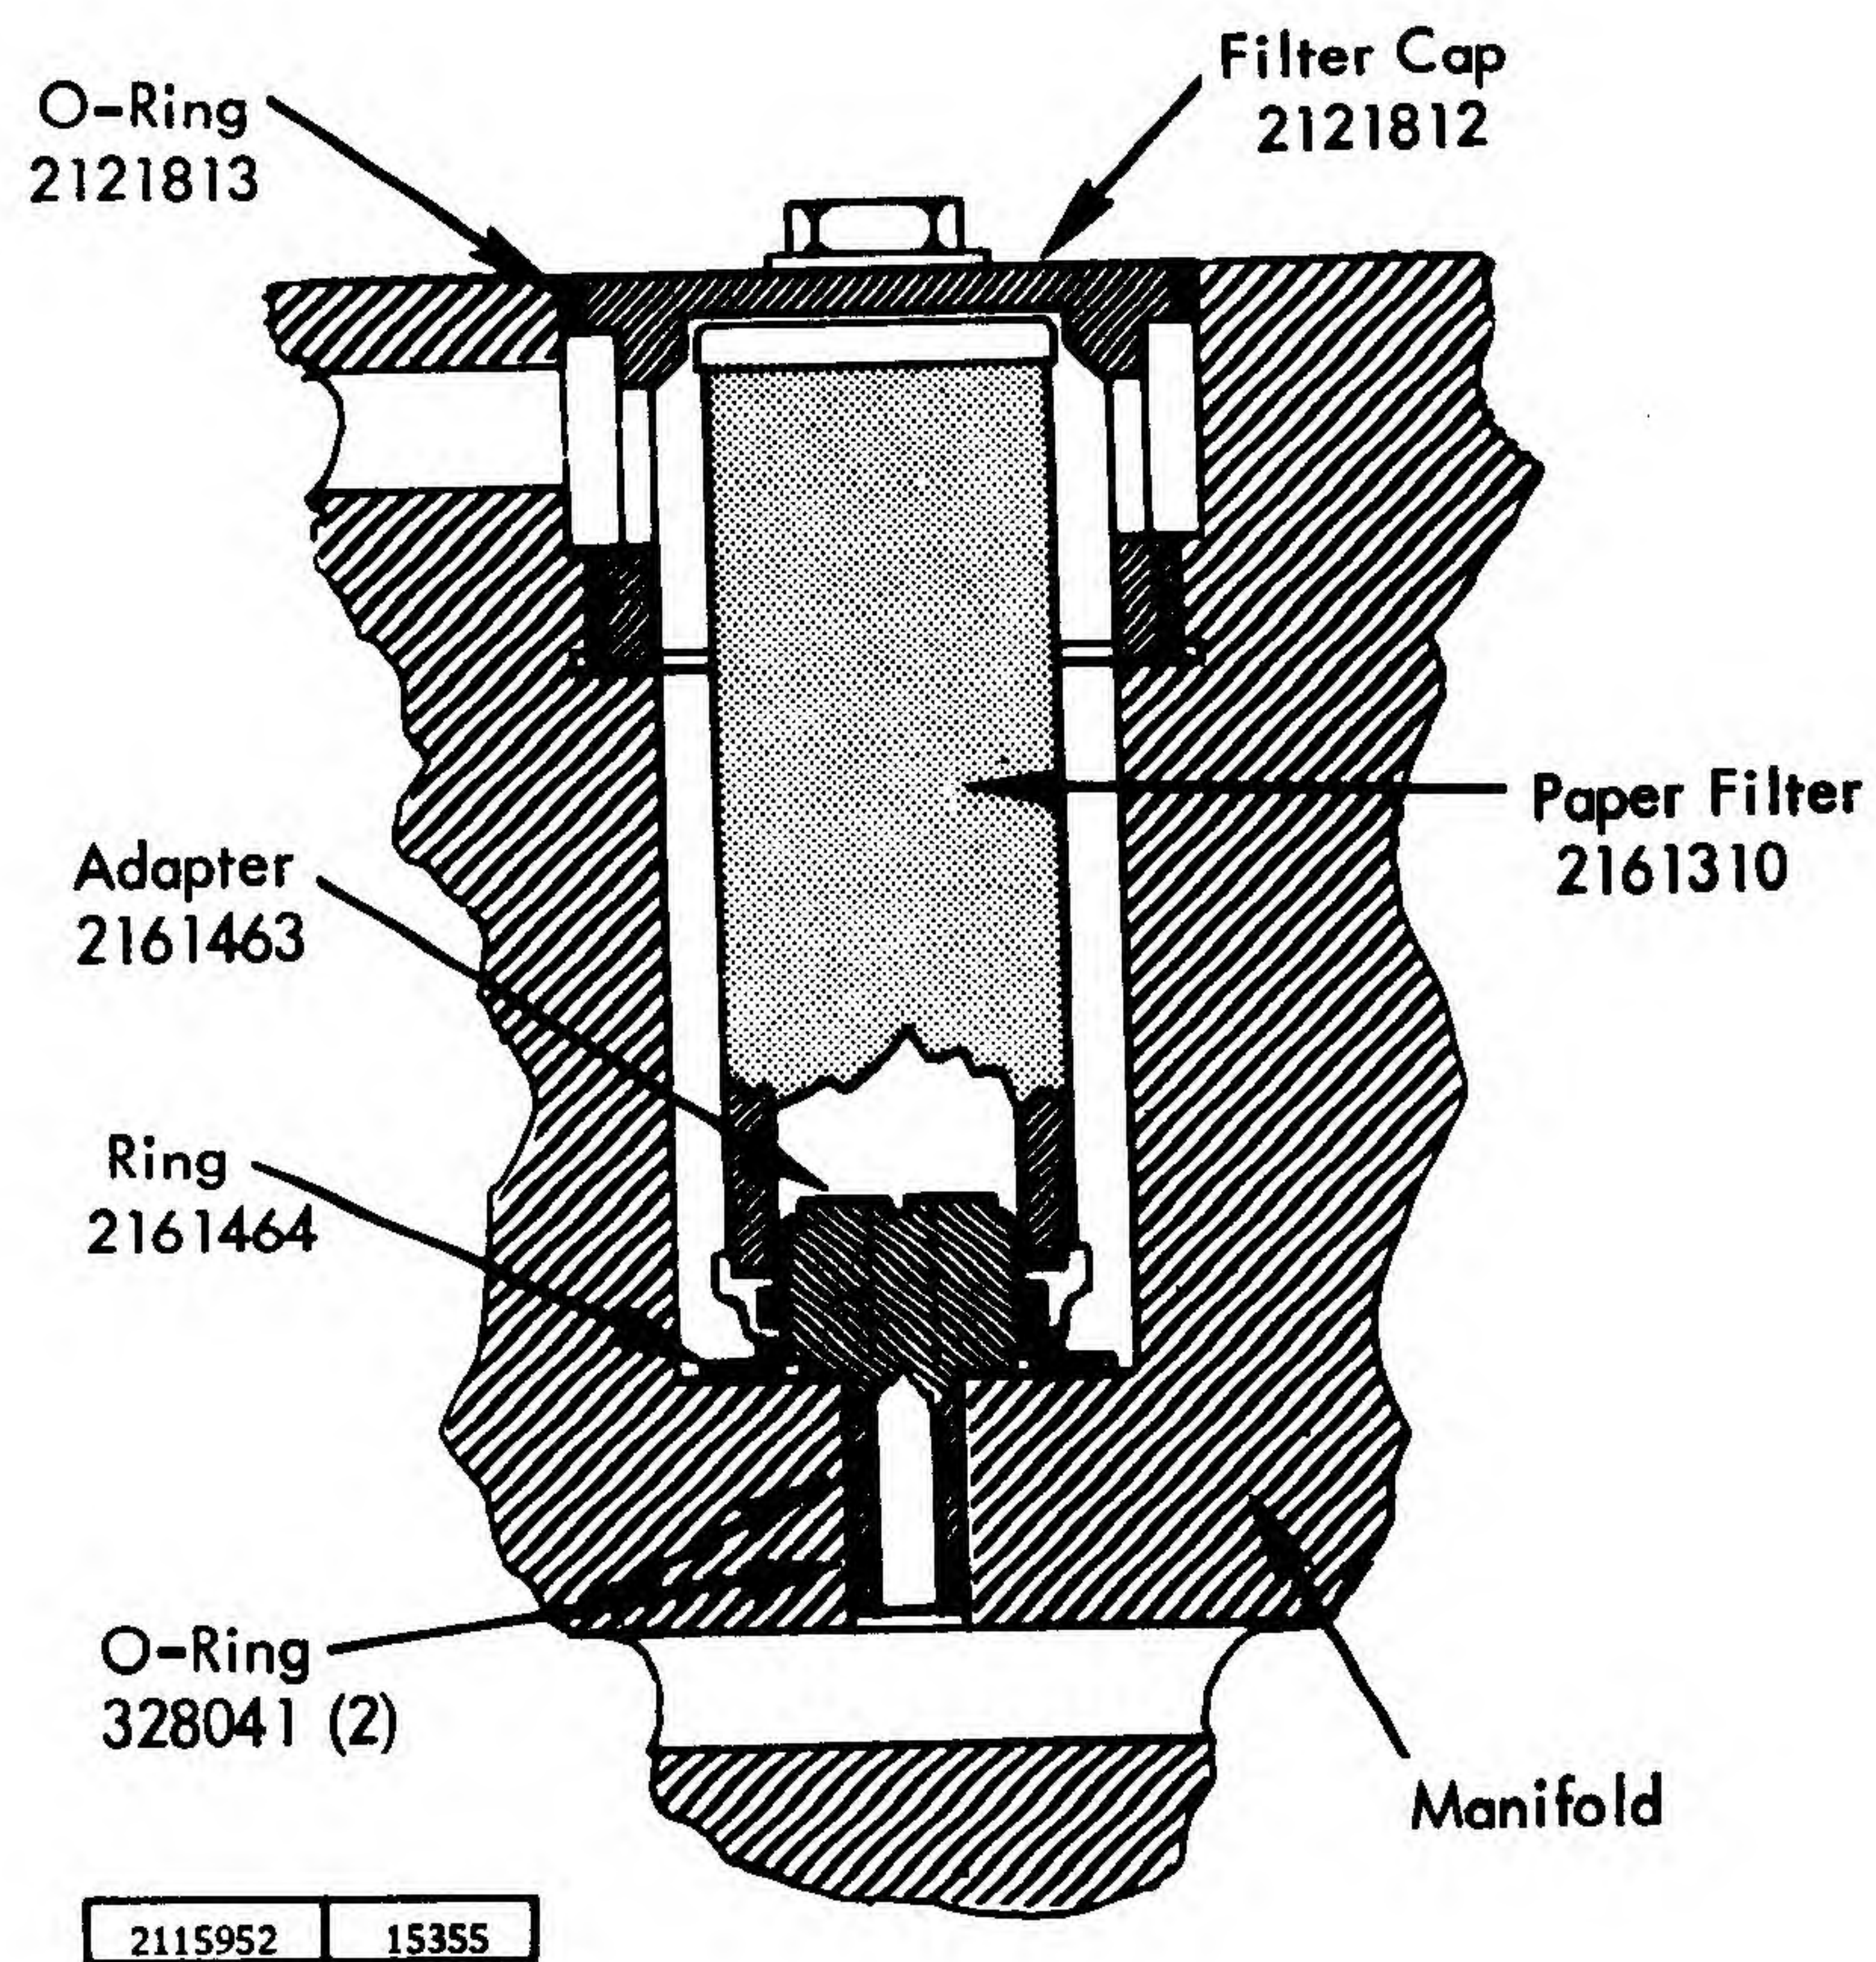

Figure 3-45b Paper Filter Assembly
Removal and Replacement (Figure 3-45b)
- b. With the smallest diameter cylinder of the adapter facing downward, place adapter in filter bore and allow to fit into inner diameter of ring. Push the adapter into 1/2 diameter drilled hole at bottom of Filter Cavity. Rotate adapter using proper screwdriver on top slot so that the adapter will center itself in the ring. Do not burr edges of slot. Be sure that the adapter bottoms on the ring and bottom of the bore. See Figure 3-45b for proper fit.
5. Screw Cap into filter Cavity until it just bottoms. Do not tighten further. The top edge of the cap will be approximately flush with the top surface of the Manifold. If the cap does not seat properly, remove the cap and check for proper position of the filter. See Figure 3-45b.